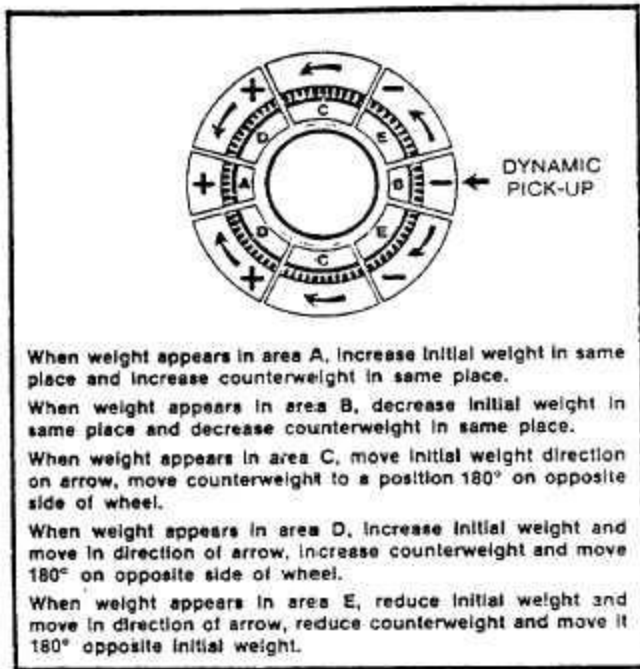

Figure 13. Dynamic Weight Positioning and Movement
9. Spin the wheel at half speed again. The tire is dynamically balanced if the meter is in the green. If the meter is not in the green, spin the wheel again as in step 7 and note the position the dynamic weight on the outer rim. Refer to figure 13 for relocating or changing the size of the dynamic weights.